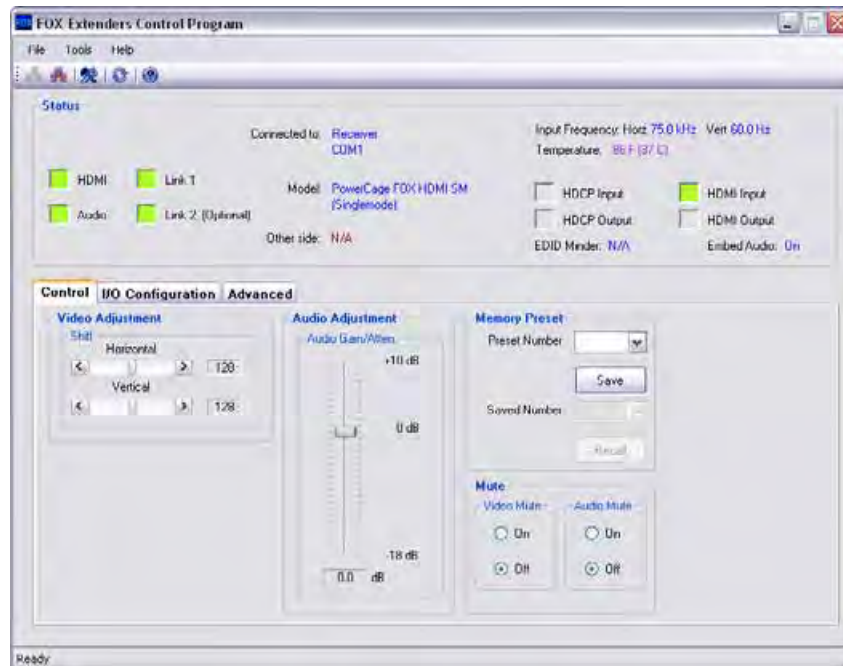

Figure 15. FOX Extenders Control Program Window
2. Select the Com port to which your transmitter or receiver is connected. Click **OK**. The FOX Extenders Control Program window appears (see figure 15).
- Figure 15 is an amalgam of program displays. Some controls and displays are available when connected to the transmitter **only** and some when connected to the receiver **only**. These functions are identified in the descriptions that follow.